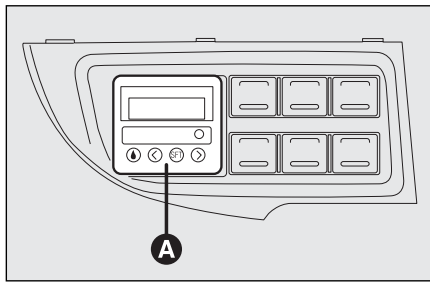

fig. 45
- ☐ digital timer **A-fig. 45** to start the heater manually or to program starting time.